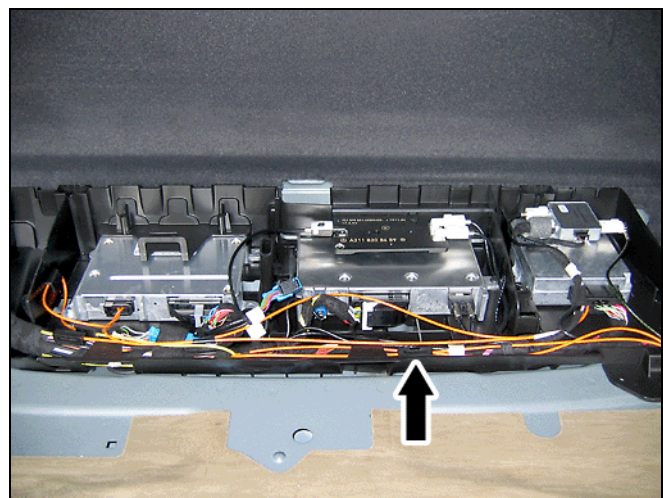

Figure 22
1. In the electronics compartment exposed by the removed carrier plate cover, find the MOST optical fiber couplings (Arrow, Figure 22).